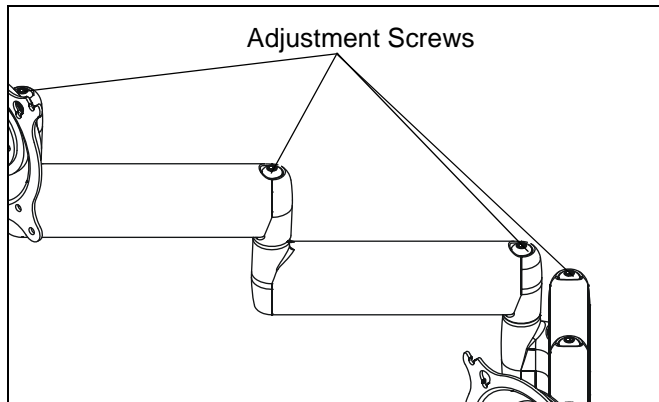

Figure 6
1. Using 3/16" hex key, slightly loosen or tighten the adjustment screw(s) as necessary. (See Figure 6)